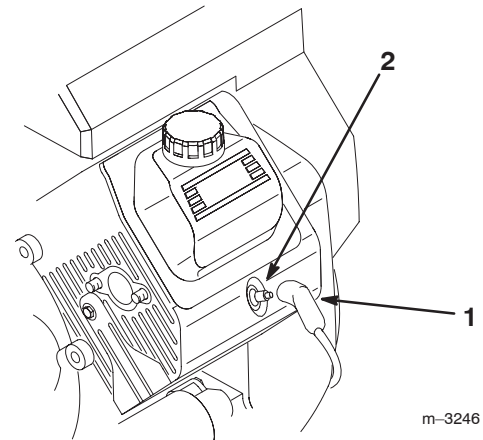

Figure 55
3. Pull the wires off the spark plugs (Fig. 55).
3. Push the wires onto the spark plugs (Fig. 55).